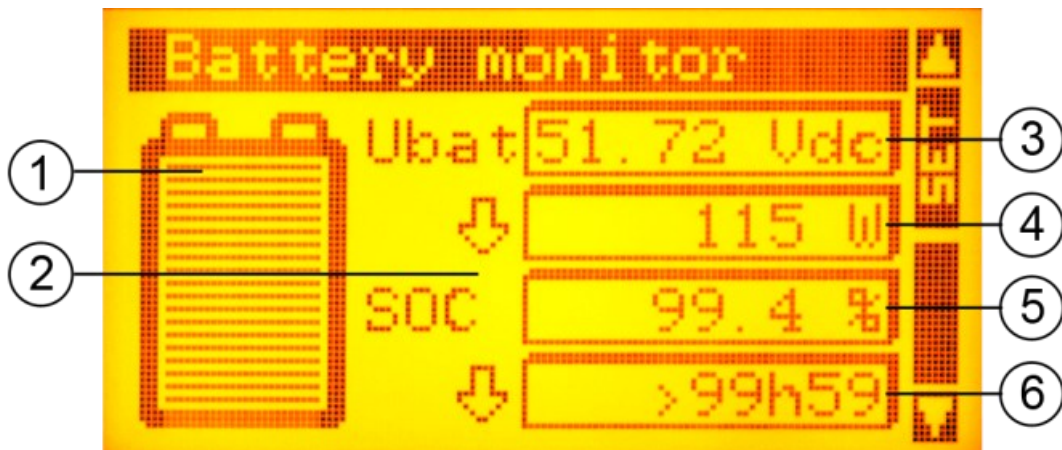

Fig. 3 - RCC-03, Battery Monitor
4. The RCC-03 input voltage (Fig. 3, A1) will display the external voltage being applied to the charge facility of the unit.
6. Once the unit is fully charged the RCC-03 battery monitor (Fig. 3, 5) will indicate that it is 100% full.